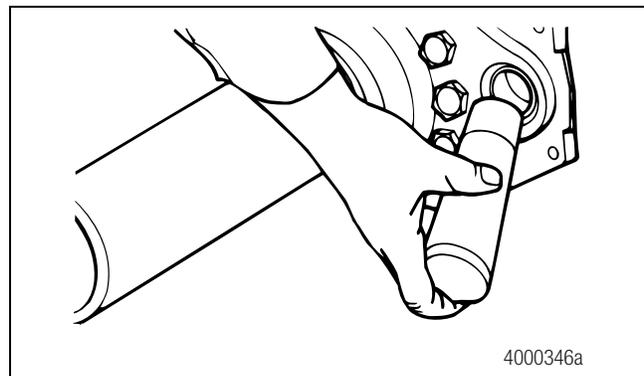

Figure 5.16
- D. Place a bushing into the bore of the spider and bracket. Use the correct size driver to install the bushings into the bore. The bushings are correctly installed when the bottom of the bushing is even with the bottom of the seal bore. The bushing must not extend into the seal bore. Figure 5.16.